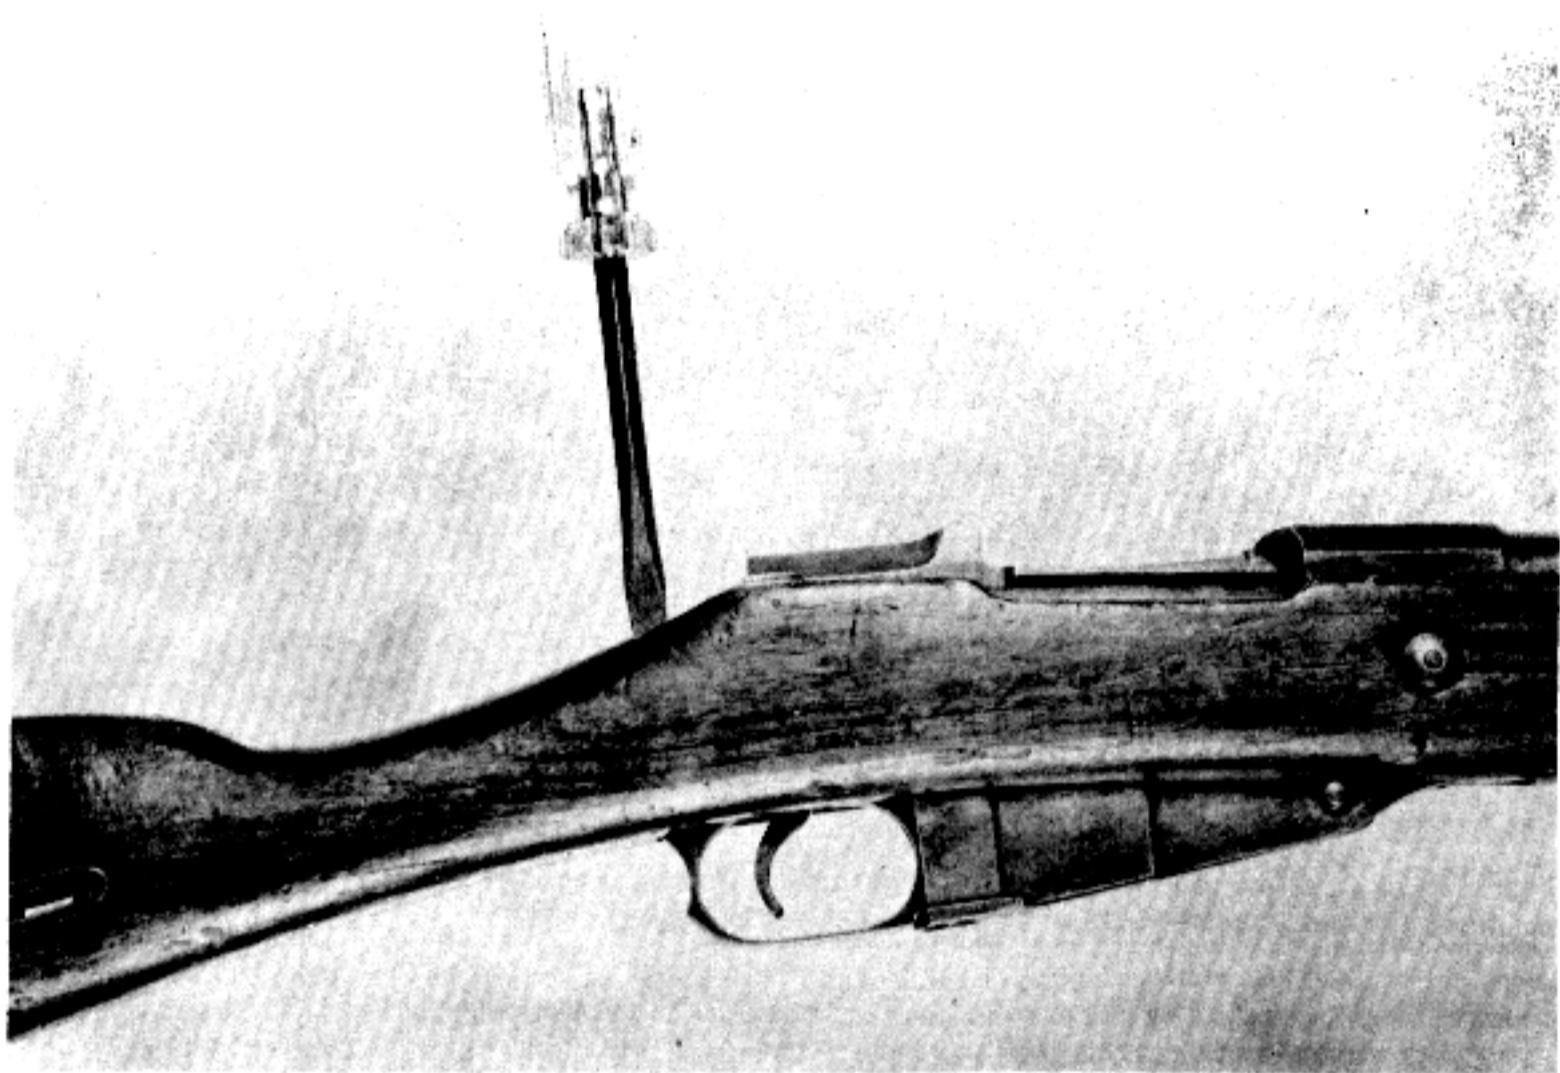

FIGURE 49. REMOVING REAR TRIGGER GUARD SCREW.
- (4) To remove the magazine and trigger guard, extract the rear trigger guard screw from the top of the stock just forward of the small of the stock, and the front trigger guard screw from the forward part of the magazine on the bottom of the stock (figs. 49 and 50). (A screwdriver provided in the accessory kit is used for this purpose.) Pull the magazine and trigger guard (fig. 51) out of the stock.
- (5) The stock bands are removed by turning the screw to the right to expand the bands, then slipping the bands forward and off the stock.
- (6) To remove the one-piece interrupter-ejector, remove the screw and push the interrupter-ejector forward until it is disengaged from the dovetail.